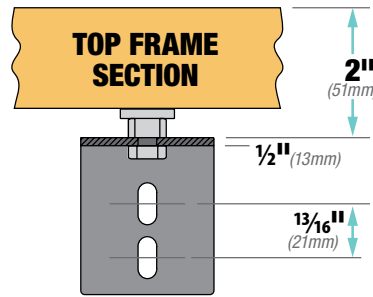

Figure 2
2. When the frame is positioned on these brackets, the top of the frame is 2" (51mm) above the top edge of the upper brackets (Fig. 2). Make sure these brackets are level with each other. Installer must insure that the fasteners are of adequate strength and suitable for the mounting surface chosen (*fasteners not provided*).